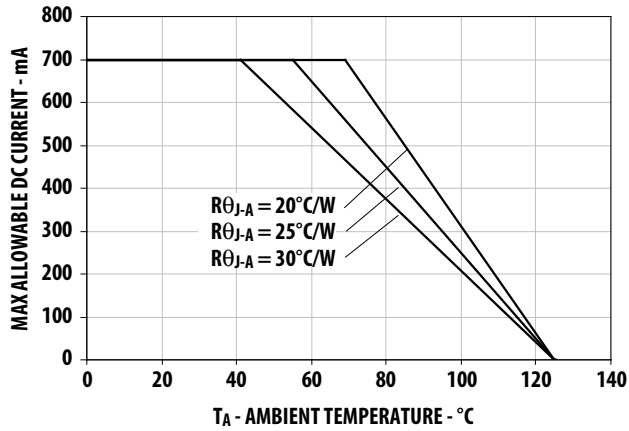

Figure 6. Maximum Forward Current vs. Ambient Temperature.
1. Derate linearly based on Figure 6.